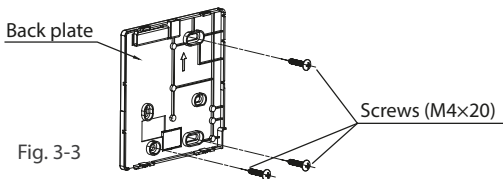

Fig. 3-3
- For exposed mounting, fasten the back plate on the wall with the 3 screws (M4×20) and plugs. (Fig.3-3)